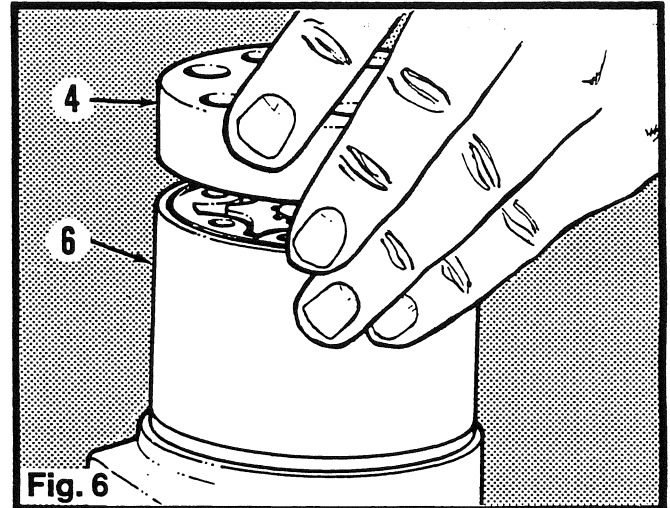

Fig. 6
2. Remove the capscrews retaining the end cap (4) and lift it off the housing (6). (Fig. 6)